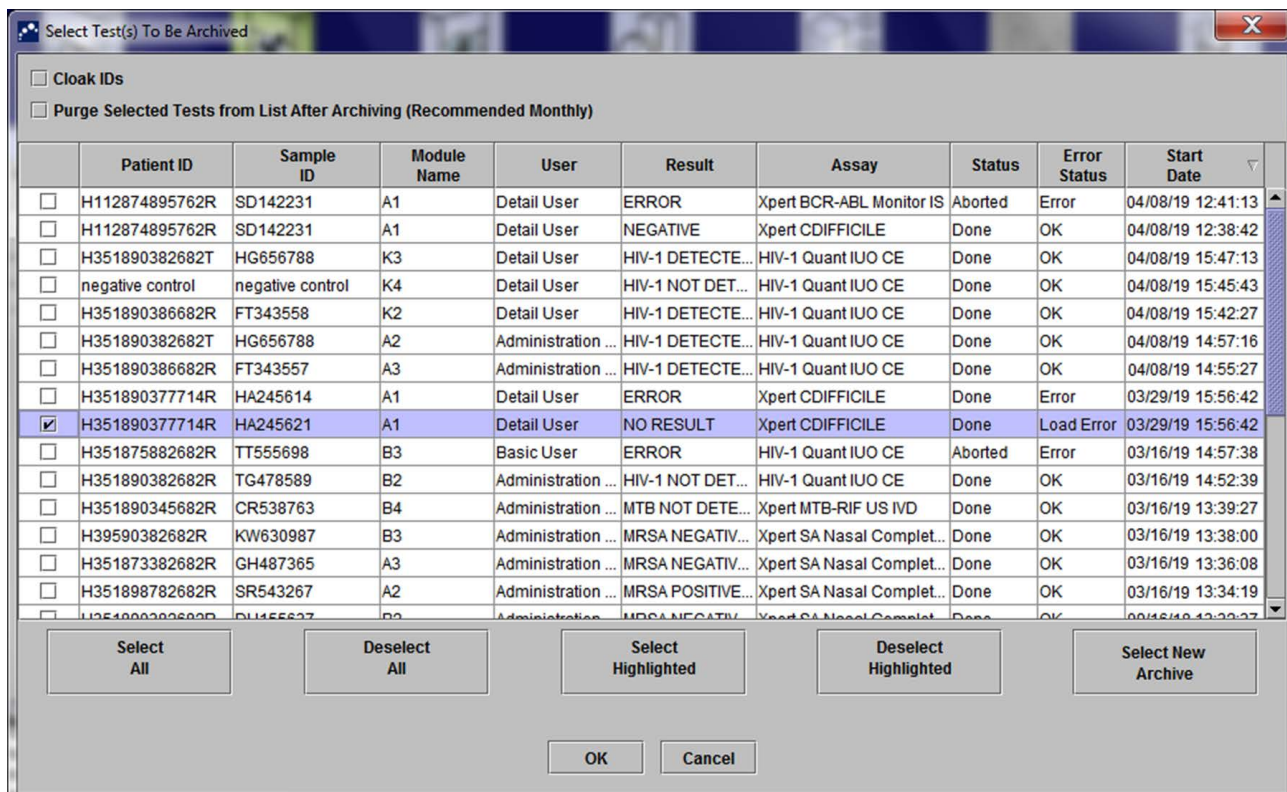

Figure 2-77. Select Test(s) To Be Archived Screen
4. Using the Look In: file viewing area, (see Figure 2-77) locate and select the .gxr/.nrx file obtained from Technical Support previously, and then click **Open**. The new lot number appears in the Reagent Lot Specific Parameters dialog box. Click **Close** in the Reagent Lot Specific Parameters dialog box to return to the Define Assays window.